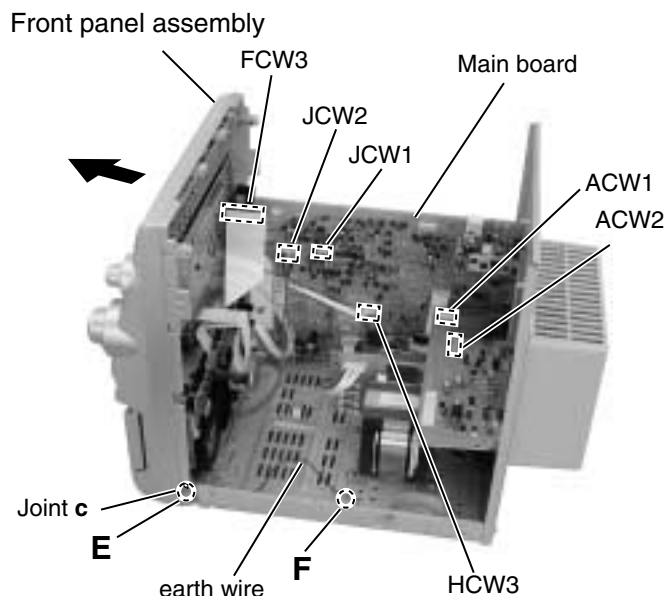

Fig.11
■ Removing the front panel assembly (See Fig.11 to 13)
4. Disconnect the card wire from connector ACW1 and the harness from connector ACW2 on the AMP board. (See Fig.11)